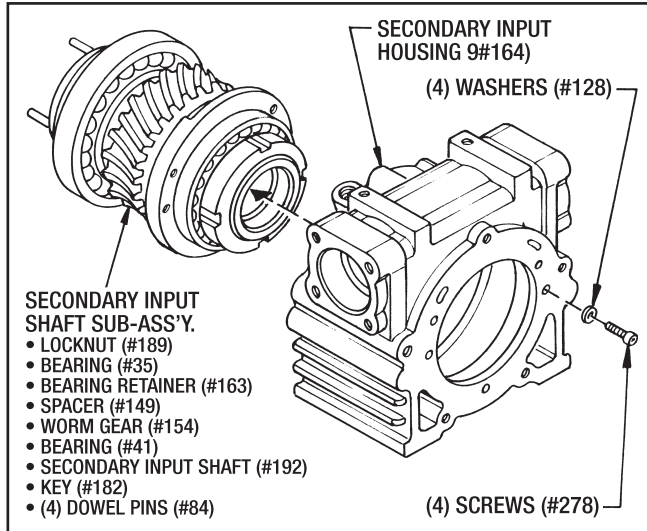

Figure 9.2 - Installing Secondary Input Shaft Sub-Assembly
1. Insert the assembled Secondary Input Shaft into the housing and attach the Bearing Retainer (#163) with Screws (#278) and Washers (#128). See Figure 9.2.
1. Insert the Secondary Input Shaft Sub-Assembly into the Housing (#164). Attach Bearing Retainer (#163) with Screws (#278) and Lockwashers (#128). (See Figure 9.2)
6. Bolt the Bearing Retainer (#156) to the housing using (4) Screws (#198) and (4) Lockwashers (#175).
9. Bolt the C-Face Adapter (#155) to the housing using (4) Screws (#264) and (4) Lockwashers (#175).